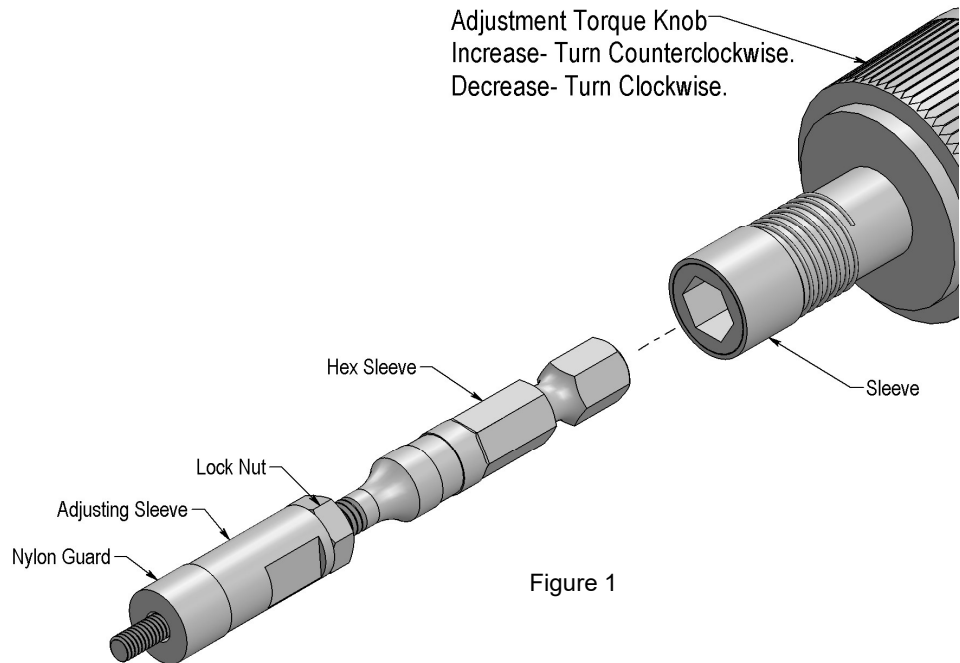

Figure 1
- The Installation Mandrel (see figure 1) is designed to be used with the KATO KFS-20 Electric Driver CT5420 (sizes 2-56 to 1/4" and M2.5 to M8).